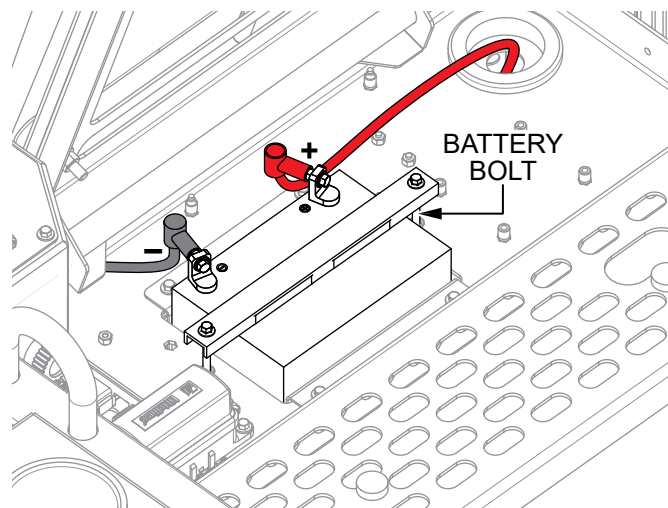

Figure 14. Battery Connection
2. Make sure the battery is well secured in the battery tray with the two **battery bolts** (Figure 14).
3. Connect the positive (**RED**) battery cable to the positive (+) terminal on the battery, then connect the negative (**BLACK**) battery cable to the negative (-) terminal. See Figure 14.